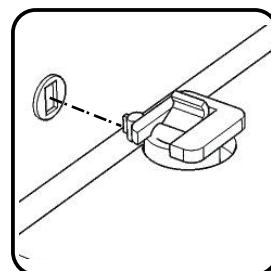

Figure 2
Attach Middle Panel (K) to unit, then flip the locks. (See Figures 2 and 3)